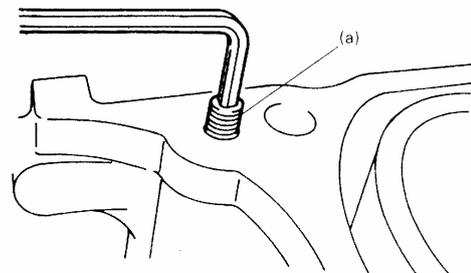

Fig. 4-125
2) Inspect throttle valve installing, insure it isn't walled up as shown in Fig. 4-125. Tighten it according to specified torque.